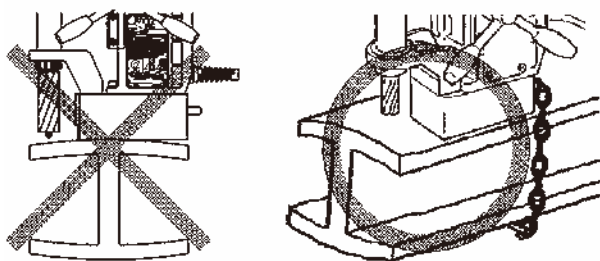

Fig. 6
- When using on H-section steel, as shown in the figure below, set the Magnet in a direction parallel to the longitudinal direction of the material. This will ensure that the Magnet is in the best position for magnetic attraction. (Fig.6)